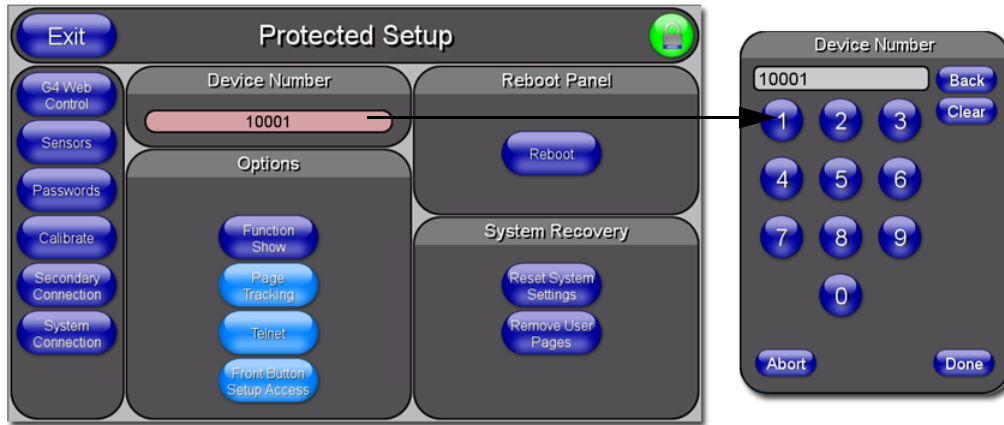

FIG. 31 Protected Setup page
4. Press the red **Device Number** field to open the Device Number keypad (FIG. 31).